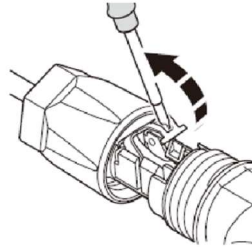

Figure 5-7
3. Open spring using a screwdriver (Figure 5-7).